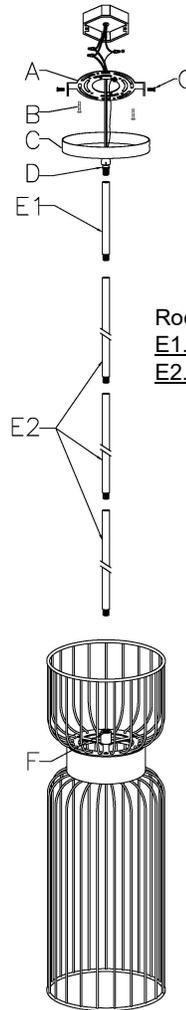

Fig. 2
CONNECTING THE WIRES (Fig. 2)
5. Connect the electrical wires as shown in fig.2, making sure that all wire connectors are secured. If junction box has a ground wire (green or bare copper), connect the fixture's ground wire directly to mounting plate (A) using the green screw provided.